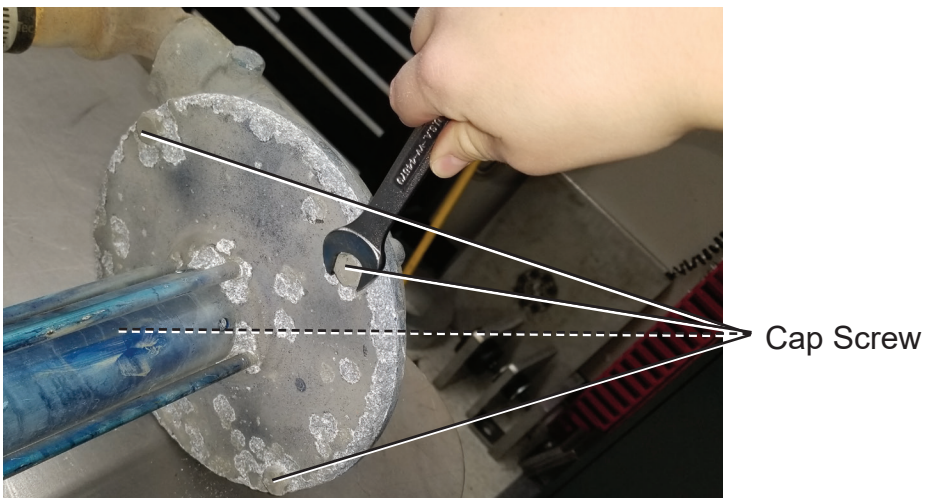

Figure 4
9. Remove the 4 cap screws from pump assembly impeller housing, see Figure 4.